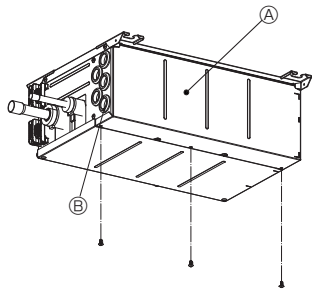
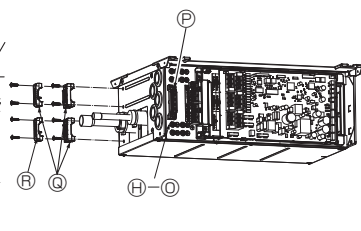

Fig. 8-1
Fig. 8-4
- (1) Remove the electric cover. (Fig. 8-1)
- (2) Pass the wiring into the branch box each wire in place with a wiring clamp.
- (3) Firmly connect each wire to the appropriate terminal block. (Fig. 8-4)
- (4) Set dip sw. (Refer to 8.3)
- (5) Replace the electric cover.